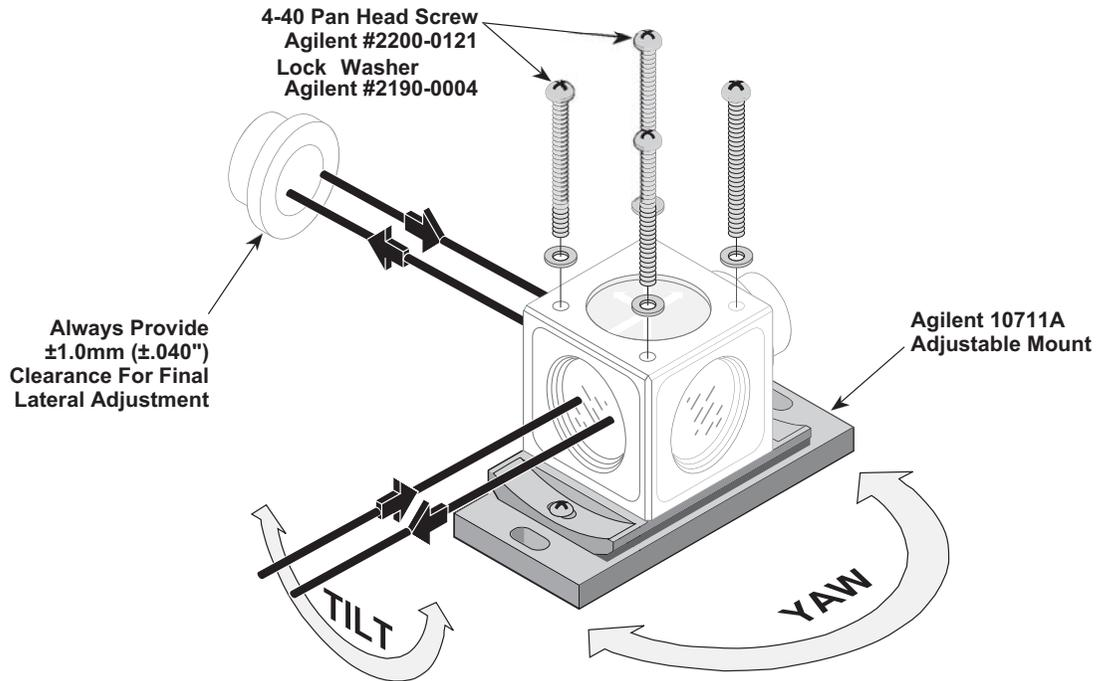

Figure 24 Horizontal plane mounting using the Agilent 10711A adjustable mount
- 3 Figure 24 shows how to mount certain linear, plane mirror, or differential interferometers in the horizontal plane, using the Agilent 10711A Adjustable Mount.